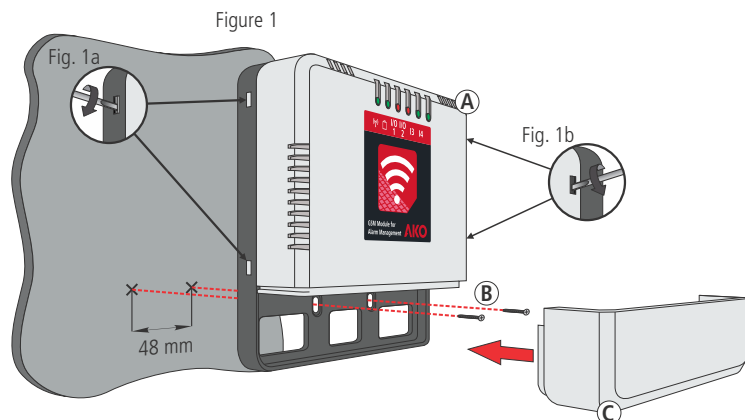

Figure 2
- Open the SIM card cover at the back of the unit and install the SIM card (Fig. 2). **Remember that the PIN must be disabled.**